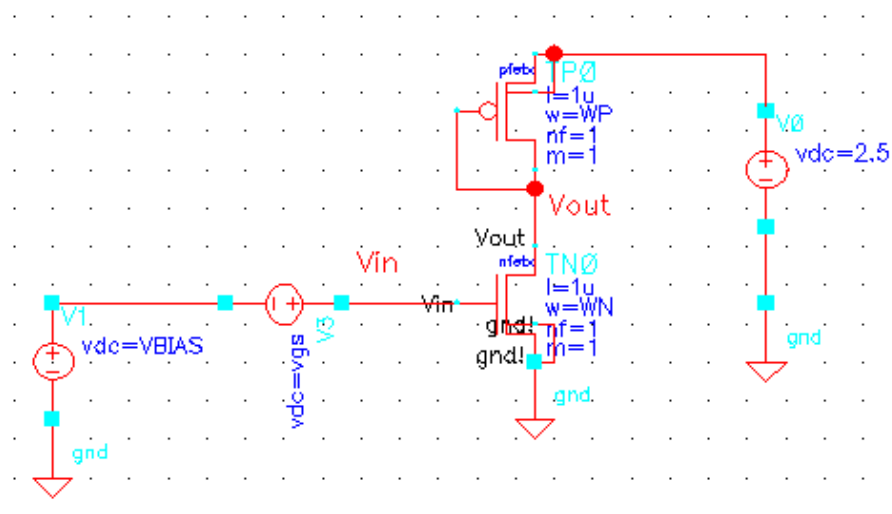

Fig 3. Schematic for Part 3
3) Replace the resistor with a diode connected PMOS. This is the *pfetx* cell in the *cmrf6sf* library. The new schematic is shown in Figure 3. This PMOS will have the following characteristics: